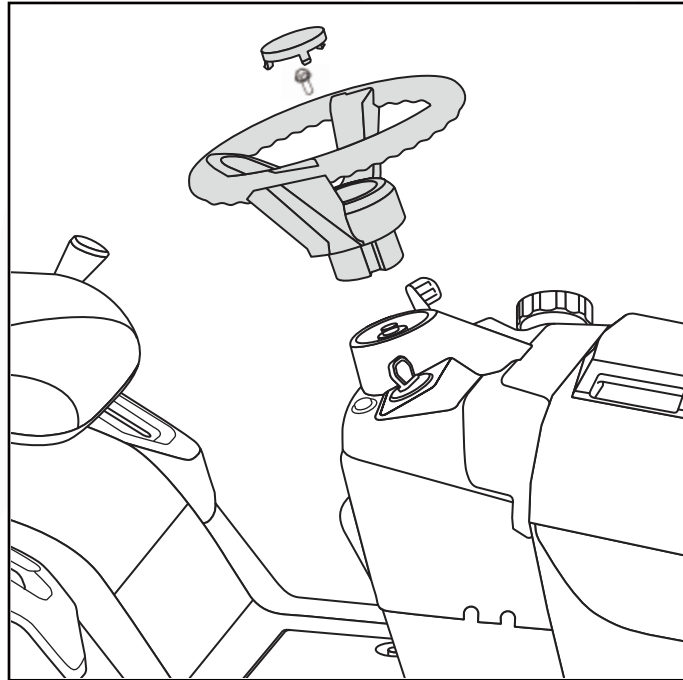

Fig. 4
1. Align the steering wheel with the steering shaft, slide the steering wheel down the shaft until into position, and secure the steering wheel with the bolt provided. (Fig. 4)